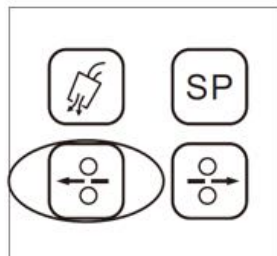

Figure 3-5 View of inching feeding of a robotic wire-feeder
1. Inching feeding of a robotic wire-feeder is shown in Figure 3-5.